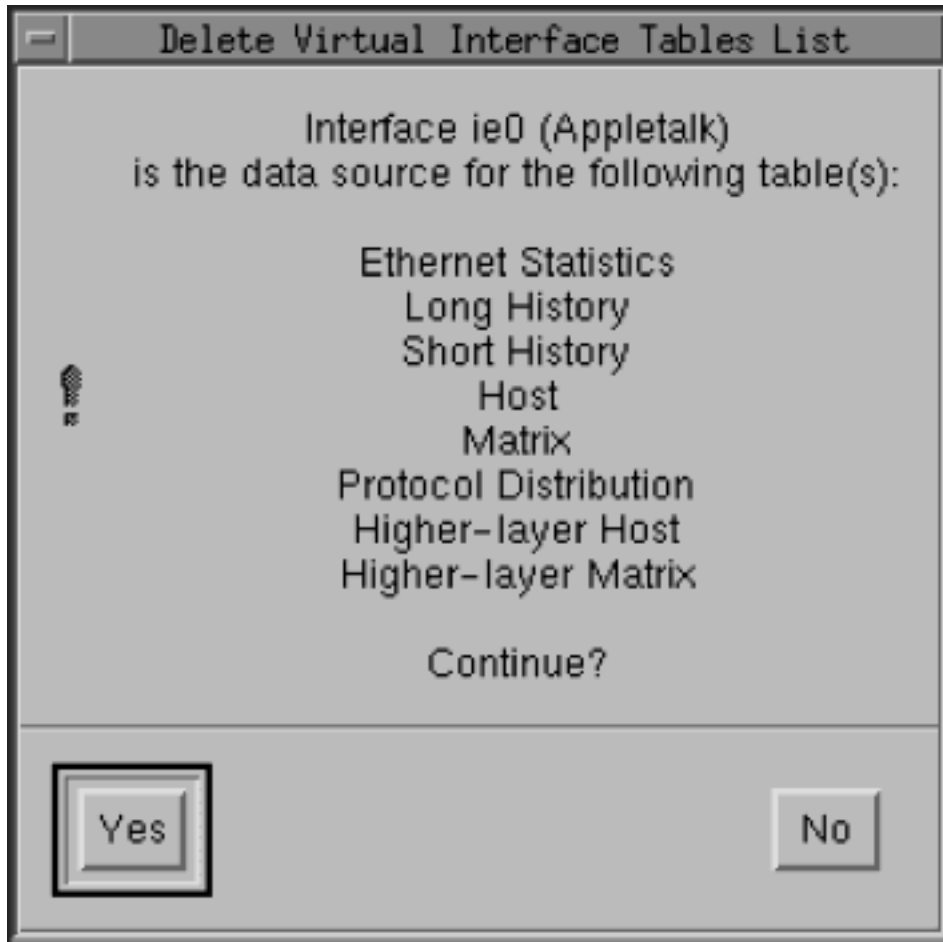

Figure 16. Delete Virtual Interface Tables List Dialog Box
3. The Delete Virtual Interface Tables List dialog box appears, as shown in Figure 16. It asks you if you want to delete the virtual interface and its associated tables.